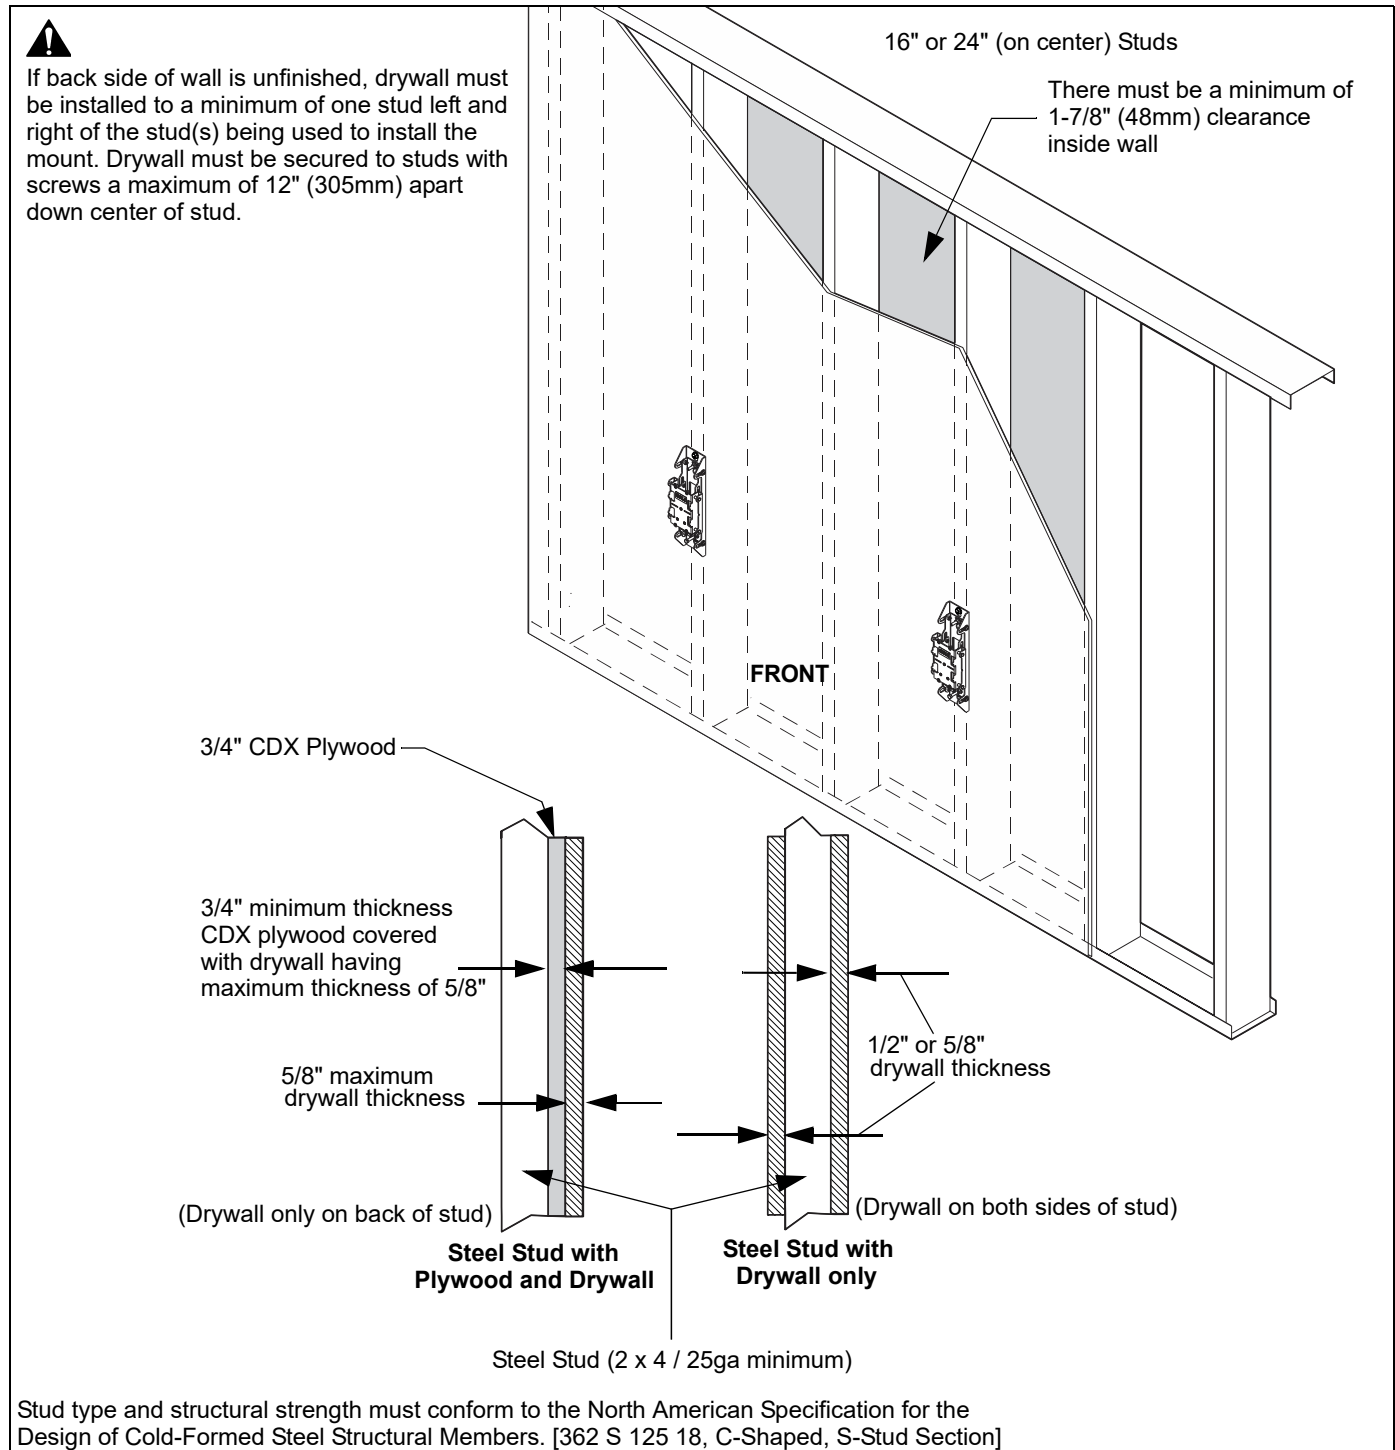

Figure 9
1. **Installing BETWEEN steel studs into 3/4" CDX plywood (covered in 1/2" or 5/8" drywall):** Use two 1/4-20 BB Snaptoggle anchors with two minimum 2-1/2" long, minimum Grade 5 screws through wall upright into plywood. (Hardware not included.) (See Figure 9)
2. **Installing into CDX plywood (covered in 1/2" or 5/8" drywall) AND steel stud:** Use two 1/4-20 BB Snaptoggle anchors with two minimum 2-1/2" long, minimum Grade 5 screws through wall upright and into plywood and steel stud. (Hardware not included.) (See Figure 9)
3. **Installing into steel stud (covered in 1/2" or 5/8" drywall):** Use two 1/4-20 BB Snaptoggle anchors with two minimum 2-1/2" long, minimum Grade 5 screws through wall upright and into drywall and steel stud. (Hardware not included.) (See Figure 9)